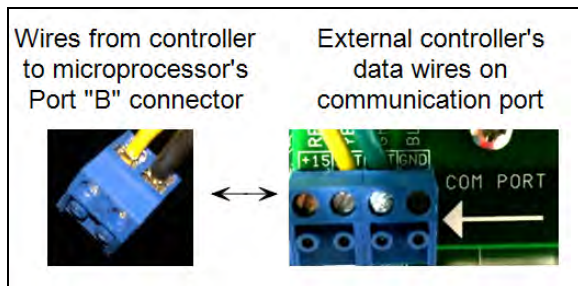
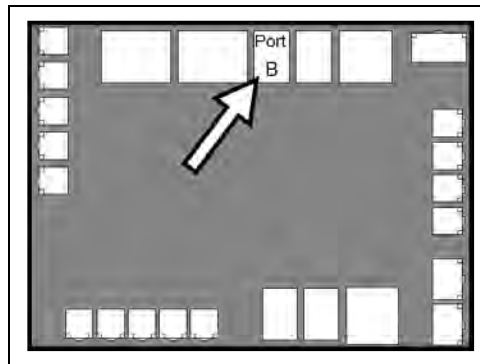
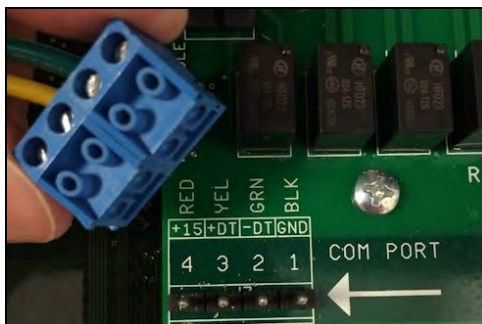

Figure 1
Figure 2
Figure 3
4. Connect control wires to the heat pump's "Port B" of the microprocessor as indicated. See Figure 1 and Figure 2. It is OK to double up wires at the external controller connection if necessary. If, for example, the external controller is using the data port for an indoor controller, add wires to the existing configuration. *Connectors can be removed from terminals for ease in connecting wires. See Figure 3*